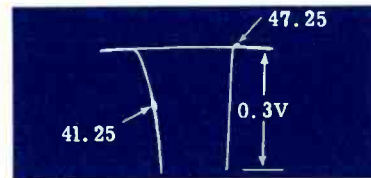

Fig. 6 Expanded View Of Traps
9. Switch the oscilloscope to 10X gain used in the above steps to blow up the trap slots. Adjust the 47.25 Mc trap for maximum attenuation of 47.25 Mc marker (top core 1st IF transformer). The 41.25 Mc marker should be in the approximate position shown in Fig. 6. On some receivers more oscilloscope gain, more signal input, or lower bias may be necessary to adjust the 47.25 Mc trap. (If the 41.25 Mc marker does not fall at the approximate position shown or nearer the base line, it may be necessary to make a slight re-adjustment of the 2nd IF. If this is done, check the overall response after adjustment.)